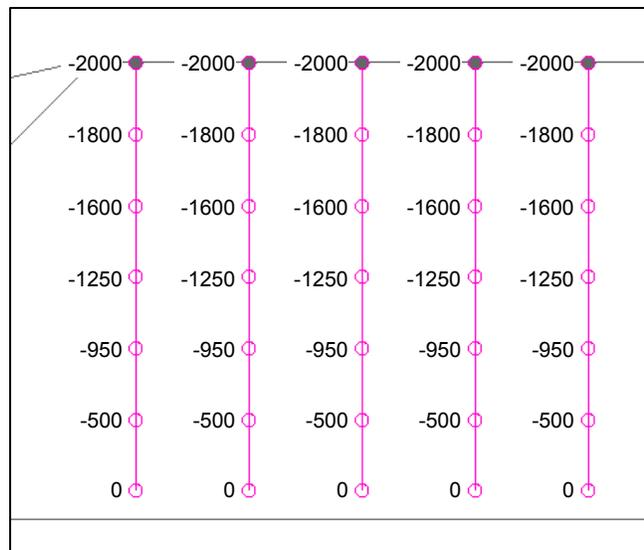

Figure 9. Longitudinal Forces Assigned to the Reinforcement Lines.
6. Repeat the above steps to assign the *Long. Force* values shown in Figure 9 below.